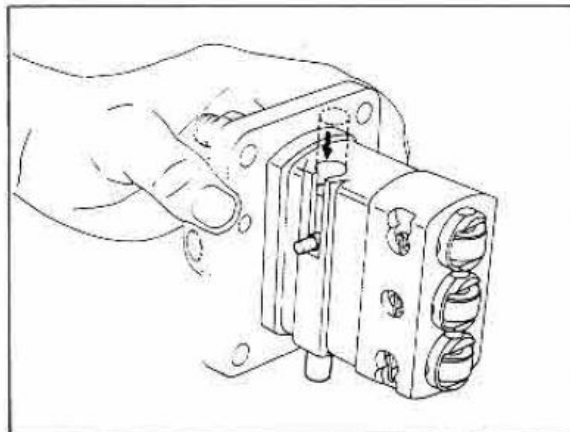

Fig. 65 Control rack movement inspection
8. After reassembly, tilt the injection pump as shown in Fig. 65 and check that the control rack slides under its own weight. If the control rack does not move smoothly disassemble to find the cause.